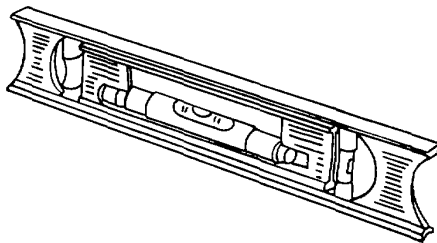

Figure 3-1. Master Precision Level
(1) *Master precision level.* The master precision level, shown in figure 3-1, has a ground and graduated main vial. The top and bottom of the level are milled and ground to make sure both surfaces are absolutely parallel. This level is used to determine the true horizontal with the main vial. The true vertical is determined by using the two smaller vials.